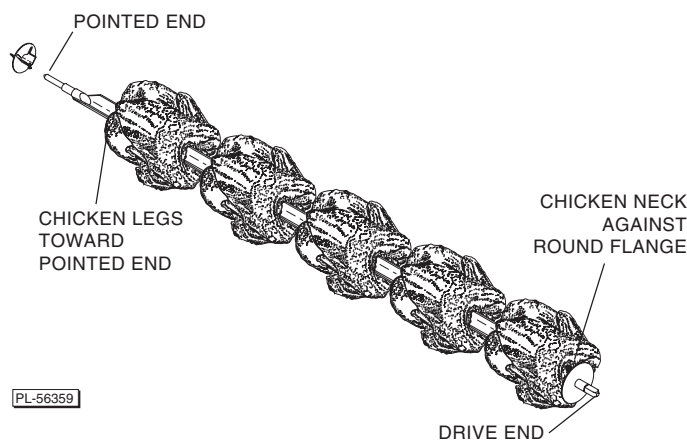

Fig. 22
- The angle spit (Fig. 22) holds five average size chickens weighing approximately 3.3 lbs. Continue loading angle spits until all spits are completed.